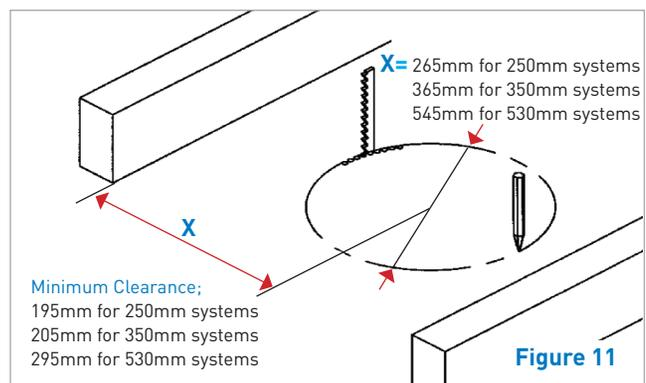

Figure 11
- Position the supplied hole cutting template on the centre point and mark a circle on the ceiling surface. For reference, the diameter is as follows: For 250mm systems this is 265mm, for 350mm systems this is 365mm and for 530mm systems this is 545mm. Then using a jigsaw or pad saw carefully cut around the circle. Alternatively a series of holes can be drilled around the circumference of the circle on the inside of the line and the intermediate sections then cut with a pad saw or coping saw (**Figure 11**).